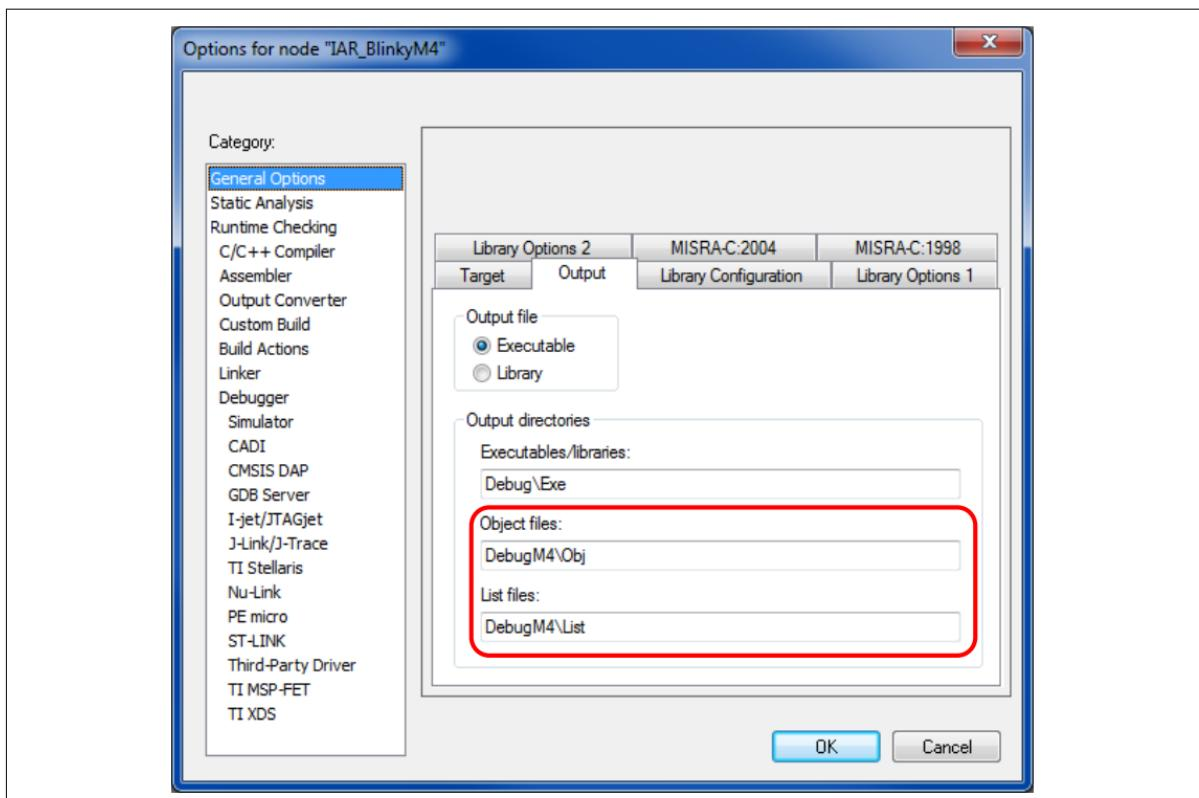

Figure 438 Unique output folders for CM4 project
- In the **Options** dialog, **General Options** section, **Output** tab, change the output directories for object and list files, as Figure 438 shows. Do not change the executables/libraries output folder